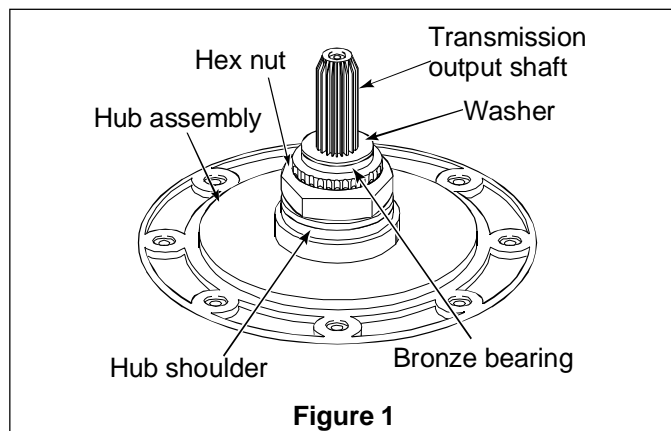

Figure 1
3. Remove large hex nut, using Hex Wrench part number 306P4. See Figure 1.